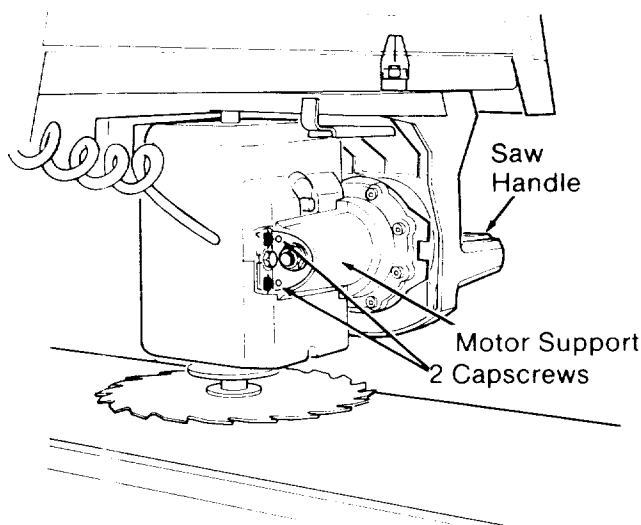

Fig. 81
10. Loosen the two screws on the back of the *motor support* using a 1/8 inch hex-L wrench and pliers if necessary. (Figure 81)